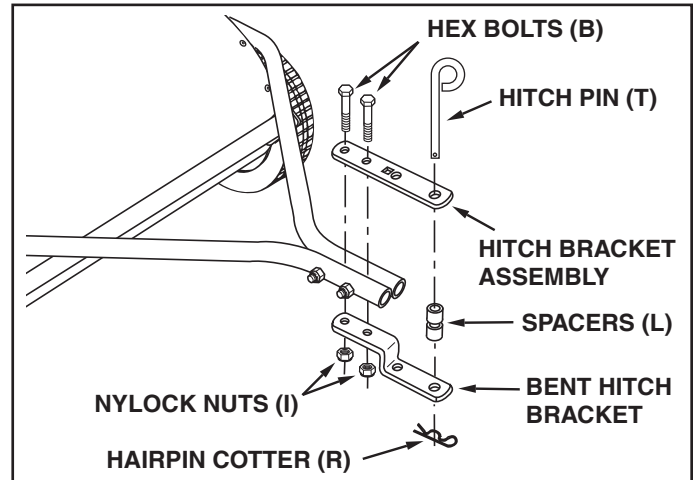

FIGURE 9
STEP 12a: (SEE FIGURE 9)
- If the tractor hitch is less than 10" above the ground, assemble the hitch brackets as shown in figure 9. Insert two hex bolts (B) through the brackets, with the rear hex bolt between the cross bolts in the hitch tubes. Secure the hex bolts (B) with two nylock nuts (I). **Do not tighten yet.**
- Assemble the two spacers (L) onto the hitch pin and secure the pin with the hairpin cotter (R).